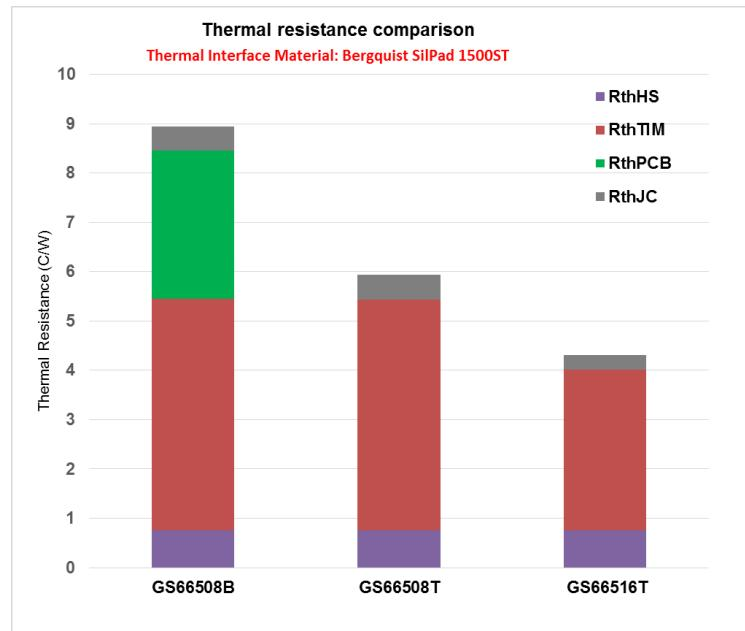

Figure 9 Evaluation board thermal resistance comparison
5. The TIM we use on this assembly is Bergquist® SilPad 1500ST, the measured total thermal resistance can be found in Figure 9. Compared to a bottom-cooled design, the top-side cooled package eliminates the PCB thermal resistance and significantly improve the thermal performance. Thermal grease is typically not needed on the assembly. If thermal grease is applied, use non-conductive and non-capacitive type thermal grease.